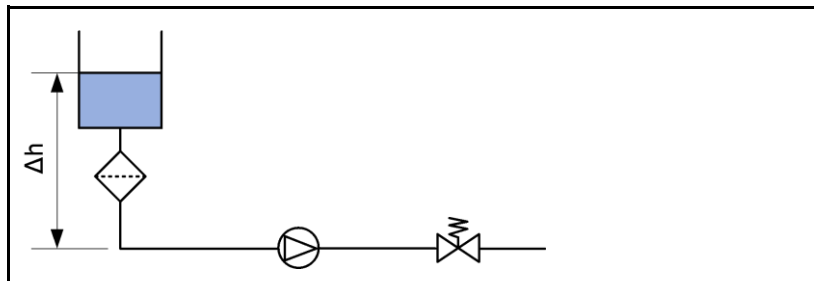

Fig. 27: Pressure test setup
1. Set up the system as shown in Fig. 27.